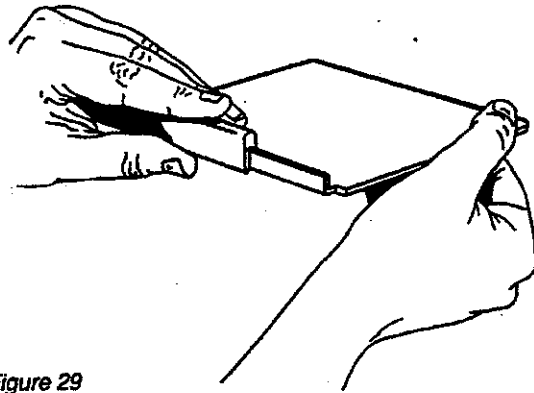

Figure 29
- c. Trim on front of dairy module shelf slides to left or right for removal. See Figure 29.